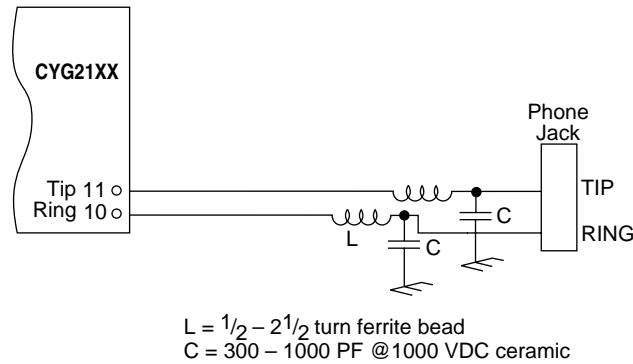

Figure 9
- Include a provision on your PCB design for a 1/2 turn ferrite bead and capacitor in your layout from the Tip and Ring terminals of the DAA to the telephone jack as shown in figure 9. This LC network will form a low pass filter that will roll off high frequencies. The decision to populate the board with these components will be based on the results of the radiated emissions coming out of the telephone line during EMI testing.